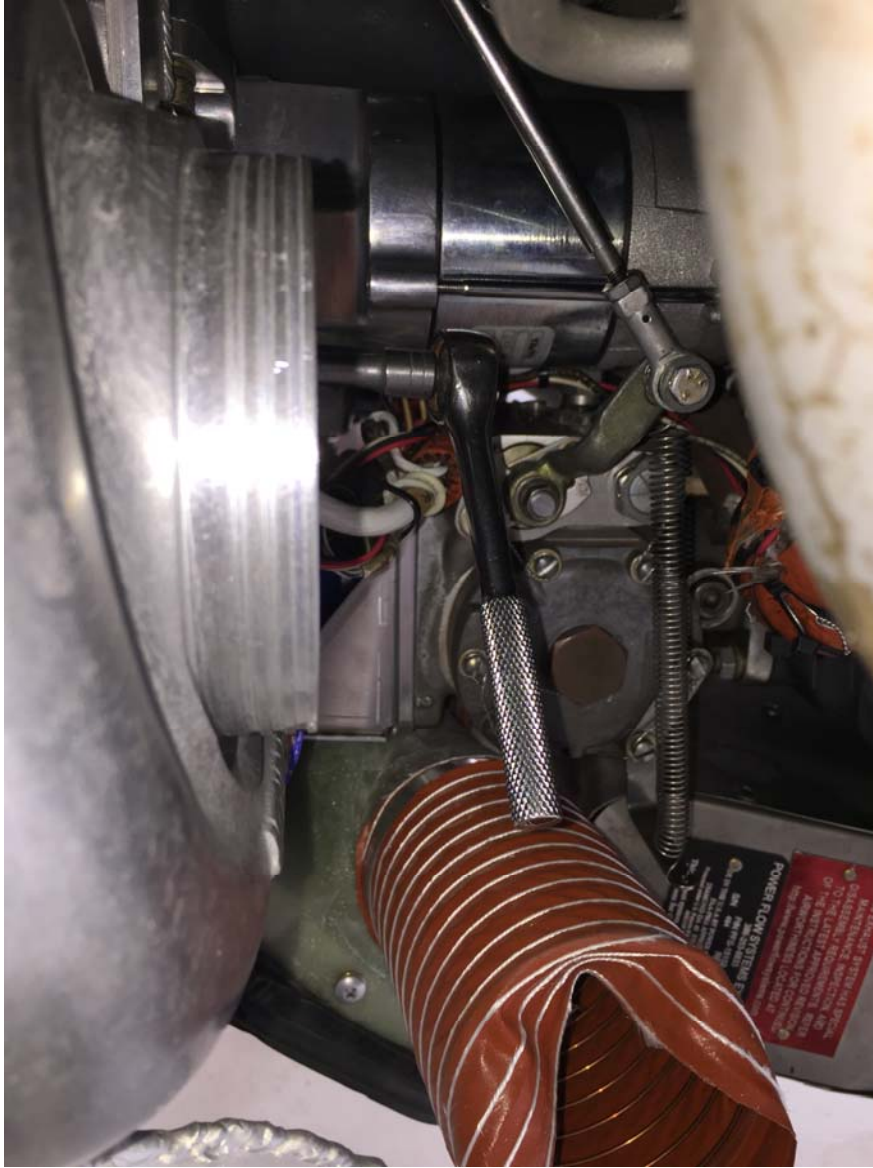

Figure 2.
- Engage the nuts on the back of the idler bracket with a ½ inch socket, ¼ inch drive and an extension. Figure 2.